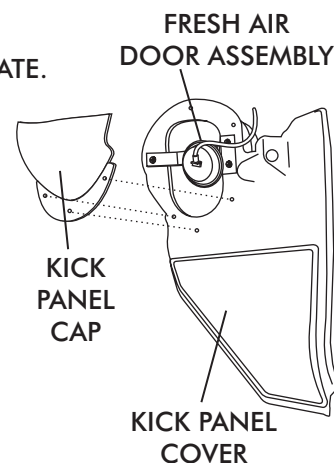

FIGURE 2b
- ☐ PASSENGER SIDE KICK PANEL ASSEMBLY (RETAIN KICK PANEL COVER & KICK PANEL CAP, BUT DISCARD DOOR & ACTUATOR). SEE FIGURE 2b.